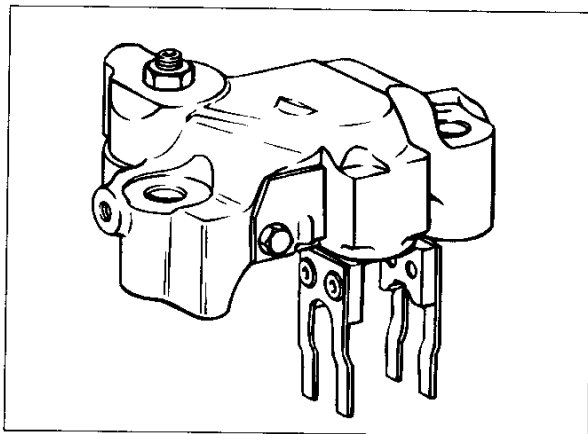

FIG. 1.6.2
- 53A (Fig. 1.6.2): Used on the following Detroit Diesel Engine Models: 3-53, 4-53, 6V-53, 8V-53